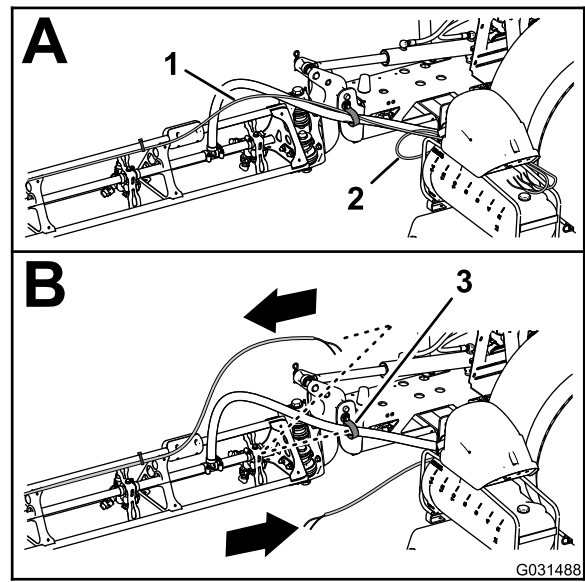

Figure 9
5. Move the tubes for the foam nozzles at the left and right boom section rearward and through the R-clamp near the pivot point for the boom section (Figure 9).